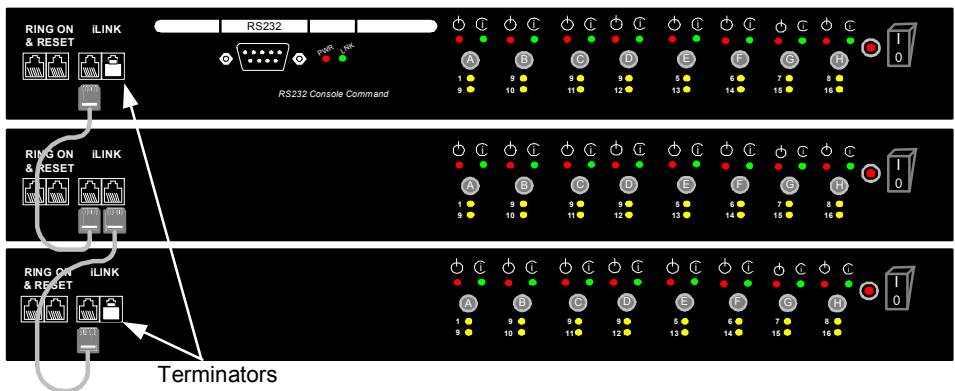

Figure 14 Adding more Slaves
1. Plug a Terminator into the Manager iLINK port and the iLINK port of last Slave to be cascaded. See Figure 14.
2. Connect an iLink cable to the iLINK ports of the SRPS Manager and a Slave unit. See Figure 14.